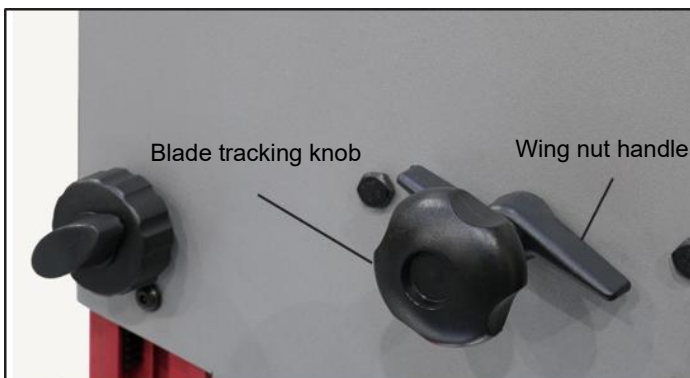

Fig. 44
2. Loosen wing nut handle by turning it counterclockwise (Fig.44).
3. Turn the blade tracking knob while carefully rotating the upper wheel by hand (Fig.44).